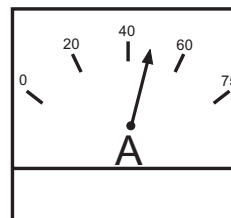

Figure 54. Ammeter (Load)
18. Observe the generator's ammeter (Figure 54) and verify it reads the anticipated amount of current with respect to the load. The ammeter will only display a current reading if the load is in use.